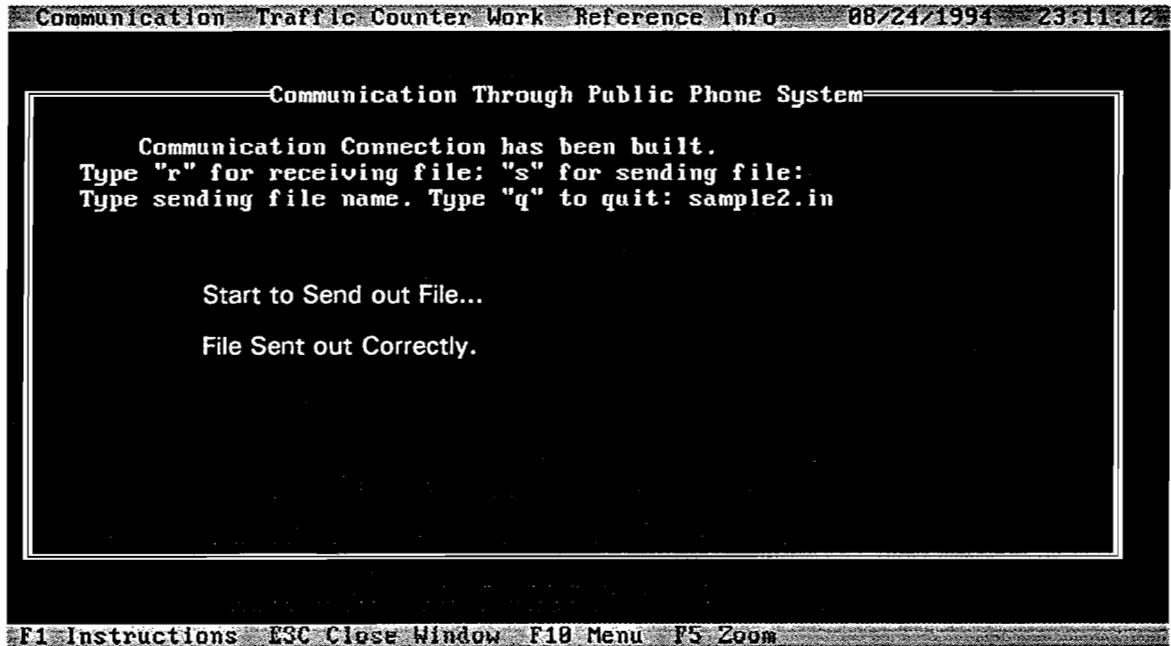

Figure 7.10 Sending a data file to TxDOT
7.2.3.4 Sending a Data File to TxDOT. Similarly, if you choose "s" for sending a data file back to TxDOT, you will see the screen shown in Figure 7.10. Remember to type a file name with an ".in" extension for the data file you need to send back to TxDOT. If errors are made during this file transfer, the screen will display messages similar to those displayed for errors made in receiving schedule files.